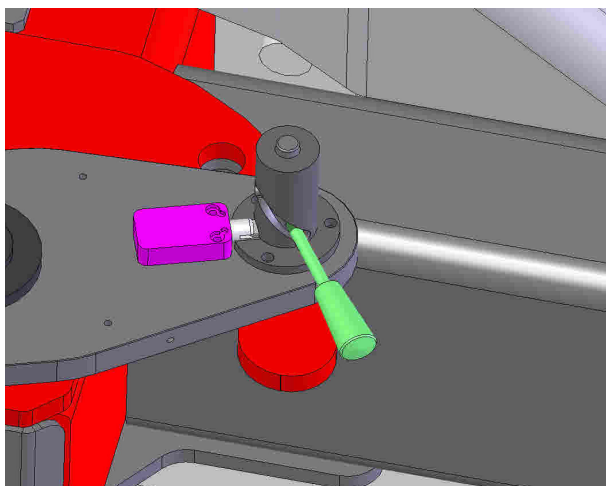

Fig. 5.15A
- **Limit switch stabilizer pins (Fig. 5.15A, 5.15B)**